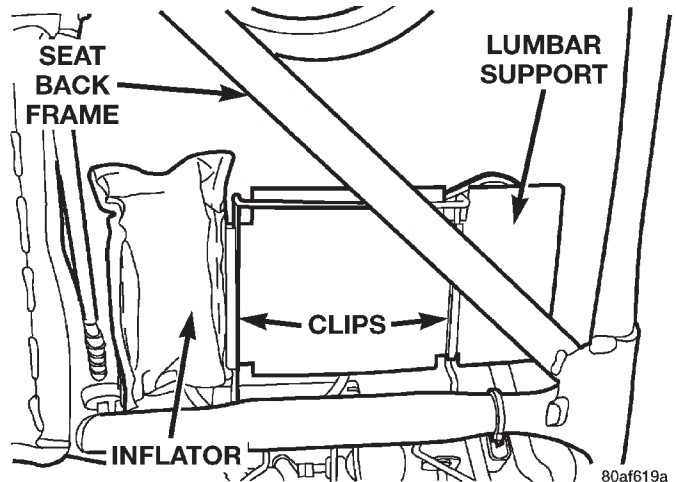

Fig. 5 Power Lumbar Adjuster and Motor Remove/Install
(1) Disconnect and isolate the battery negative cable.
(2) Remove the trim from the driver side seat back. Refer to Group 23 - Body for the procedures.
(3) Unplug the wire harness connector at the power lumbar inflator motor.
(4) Unhook the power lumbar adjuster and motor assembly clips from the steel support rod welded to the seat back frame (Fig. 5).
(5) Remove the power lumbar adjuster and motor assembly from the seat back frame.